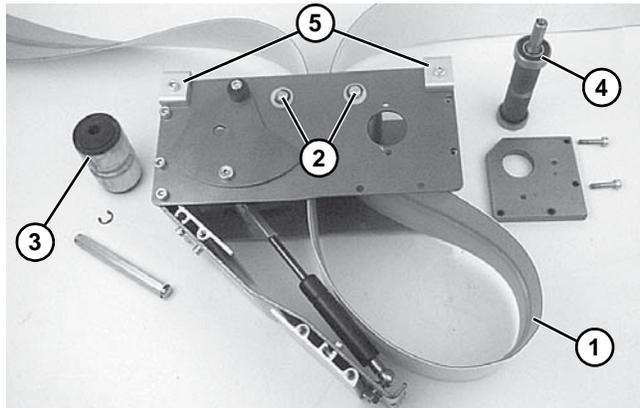

Figure 75
- Place loop of belt (**Figure 75, item 1**) into the drive module between top idler pulleys (**Figure 75, item 2**).
- Place grooved idler pulley (**Figure 75, item 3**) into the belt loop and install it in the drive module. Refer to “Belt Removal from Drive Module” on page 34 and reverse step 3.
- Place drive pulley (**Figure 75, item 4**) into the belt loop and install it in the drive module. Refer to “Belt Removal from Drive Module” on page 34 and reverse steps 1 and 2. Tighten screws (**Figure 53, item 1**) to 60 in-lb (6.8 Nm).
- Install the drive module onto the conveyor and attach clamps (**Figure 75, item 5**) in each corner. Tighten screws to 60 in-lb (6.8 Nm).